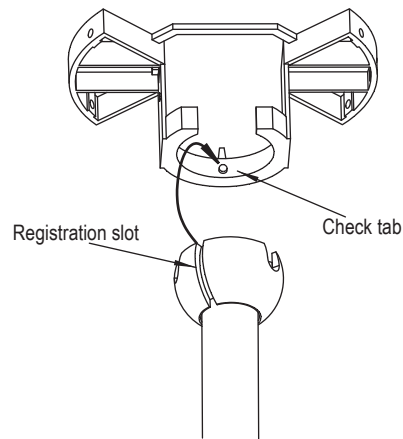

Fig. 7
Step 7. Place downrod ball into the hanger bracket socket. (Fig 7)